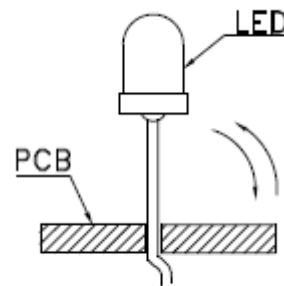

Fig. 8.
5. Do not bend the leads more than twice (Fig.8).